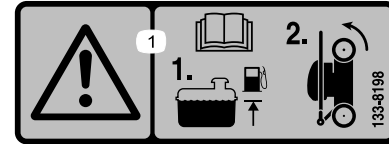

Figure 15
1. Ensure that the level of fuel in the fuel tank is no higher than what is recommended by the engine manufacturer; refer to the engine manufacturer's decal on the engine (Figure 15).